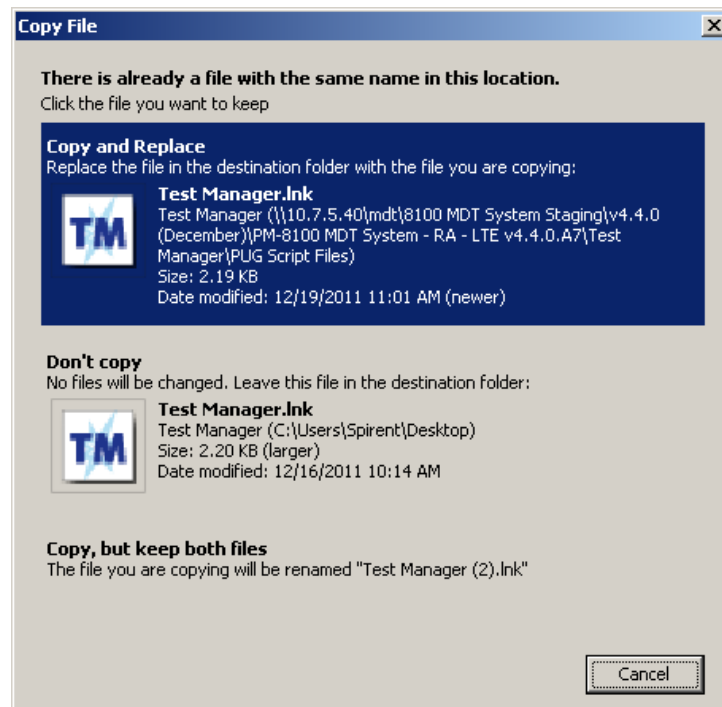

Figure 2-10: Copy and Replace Confirmation Window
6. Copy the **Test Manager** shortcut and move it to the Desktop. A *Copy File* window displays, as shown in Figure 2-10. Select **Copy and Replace**.